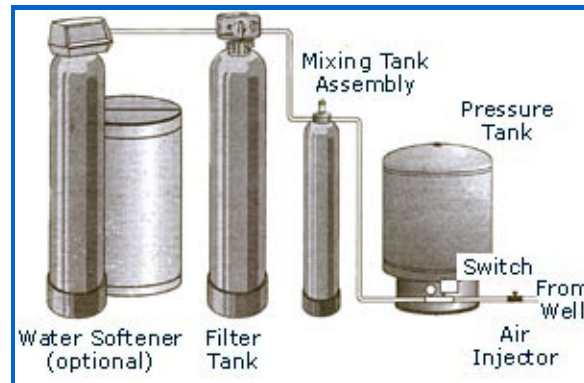

Figure 1.
5. Remember to install the filter system where your raw well water will enter it first, before any other filter system or Water Softener, but after your well pressure tank. (See Figure 1).